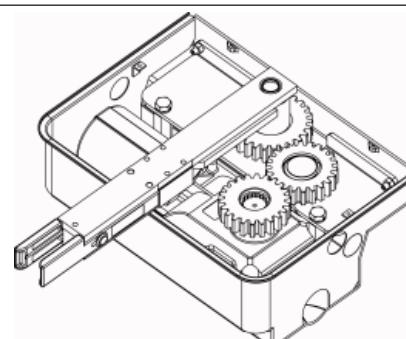

Fig. 13b
**⚠ In order to determine the exact position of the operator, gear plate for 180° opening (Fig. 13b) and the required settings, please refer to the instructions enclosed.**